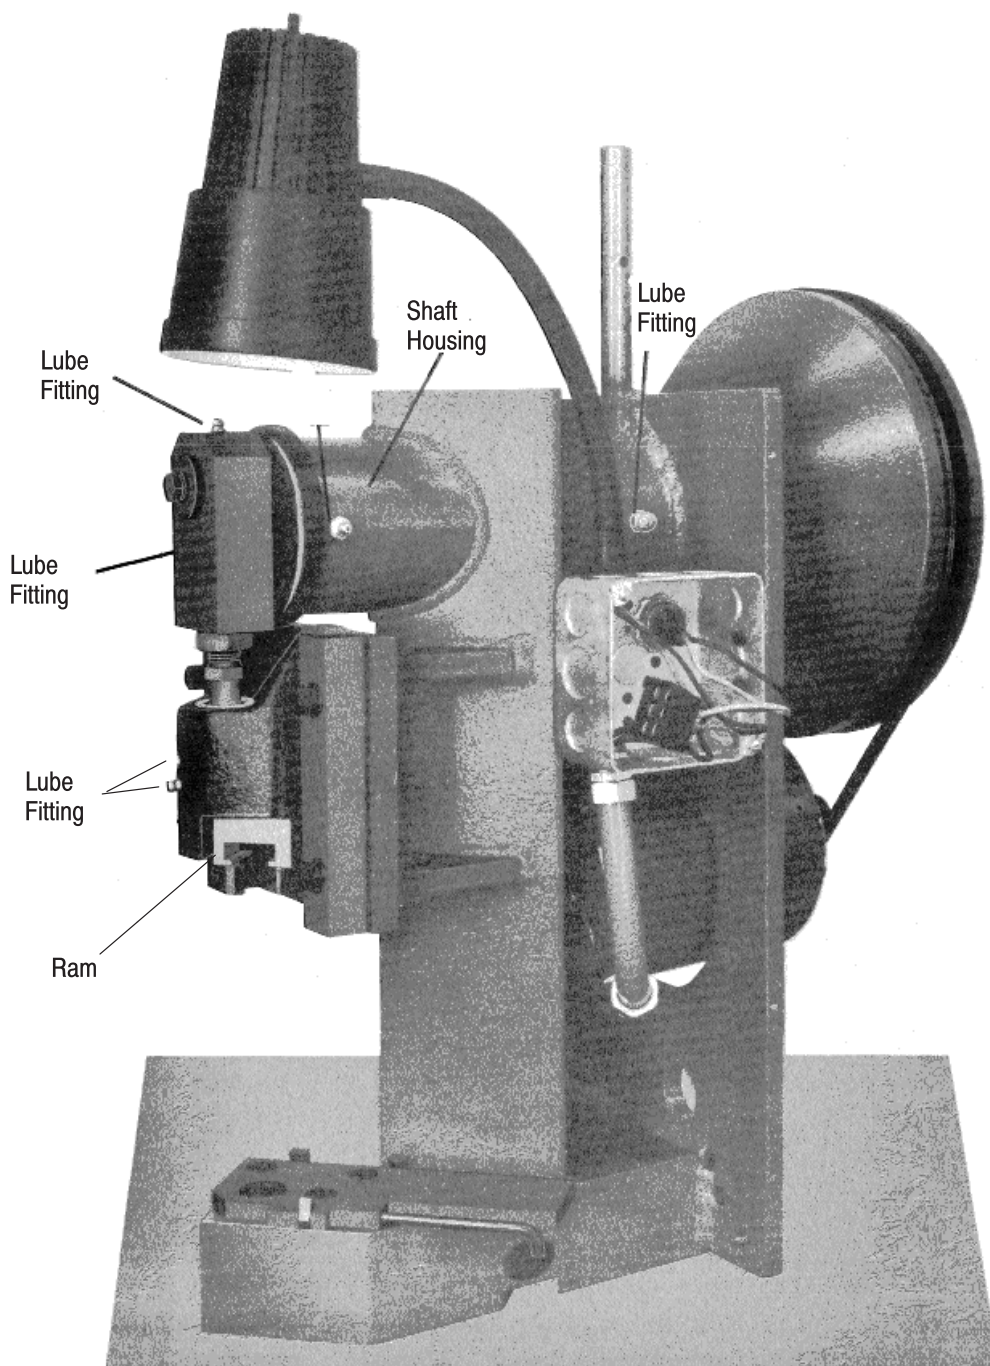

Figure 5
With the terminating unit in the standby condition, the crank block, which drives the ram, is up. During rotation of the crankshaft, the crank block drives the ram downward during the first half of the cycle, to crimp the terminal in the applicator. Then the ram is raised during the last half of the cycle, by the upward travel of the crank block to release the crimped terminal for removal from the applicator. (Figure 5)
**3.4. Lubrication** (Figure 5)
**A. Crankshaft -Ram Group** (Figure 5)
**C. Clutch Linkage (Figure 5)**